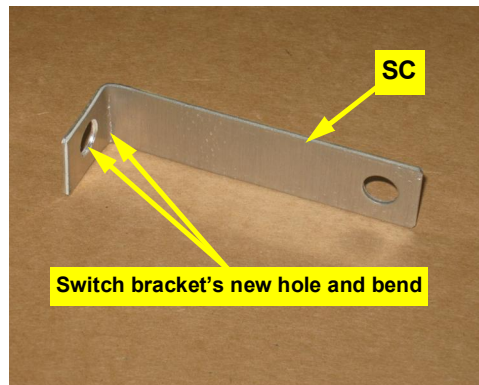

Figure 1c: Switch bracket with new hole and bend
- c. Drill a 3/8" hole in the switch/sensor bracket SC at the opposite end from the pre-drilled 5/16" hole. Put a 90° bend in the end of the bracket with the 3/8" hole (Figure 1c).